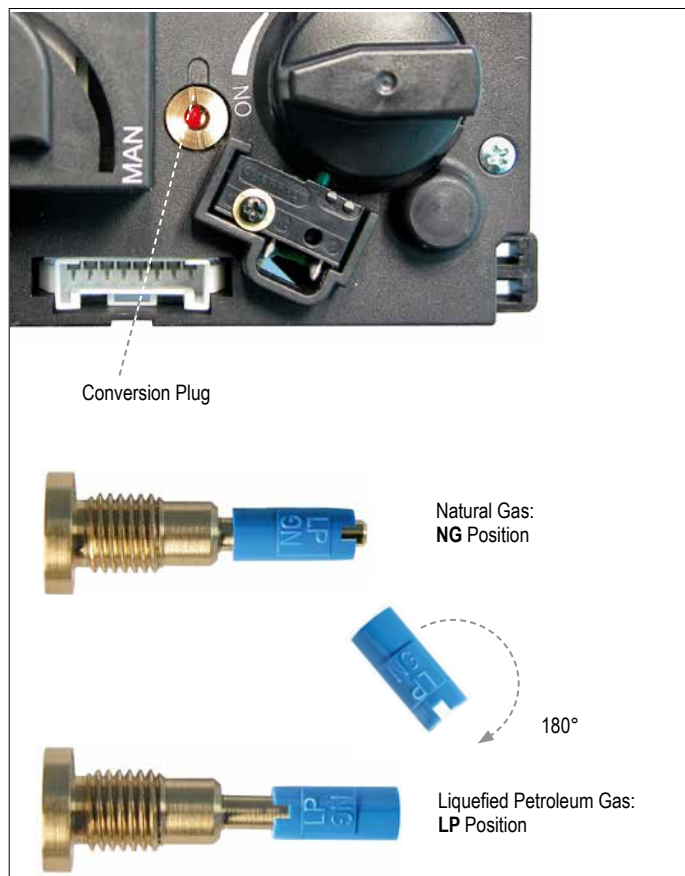

Figure 17: Conversion from one gas to another
Convertible regulators are designed to deliver either of two fixed outlet pressures for Natural Gas (NG) or LP Gas. To change from one gas to the other, turn the conversion plug (see figure 17, page 9) counterclockwise to remove. Unsnap and remove the plastic part, rotate it 180°, and then slide it back on the conversion plug until it snaps. Turn the conversion plug clockwise until it bottoms out.